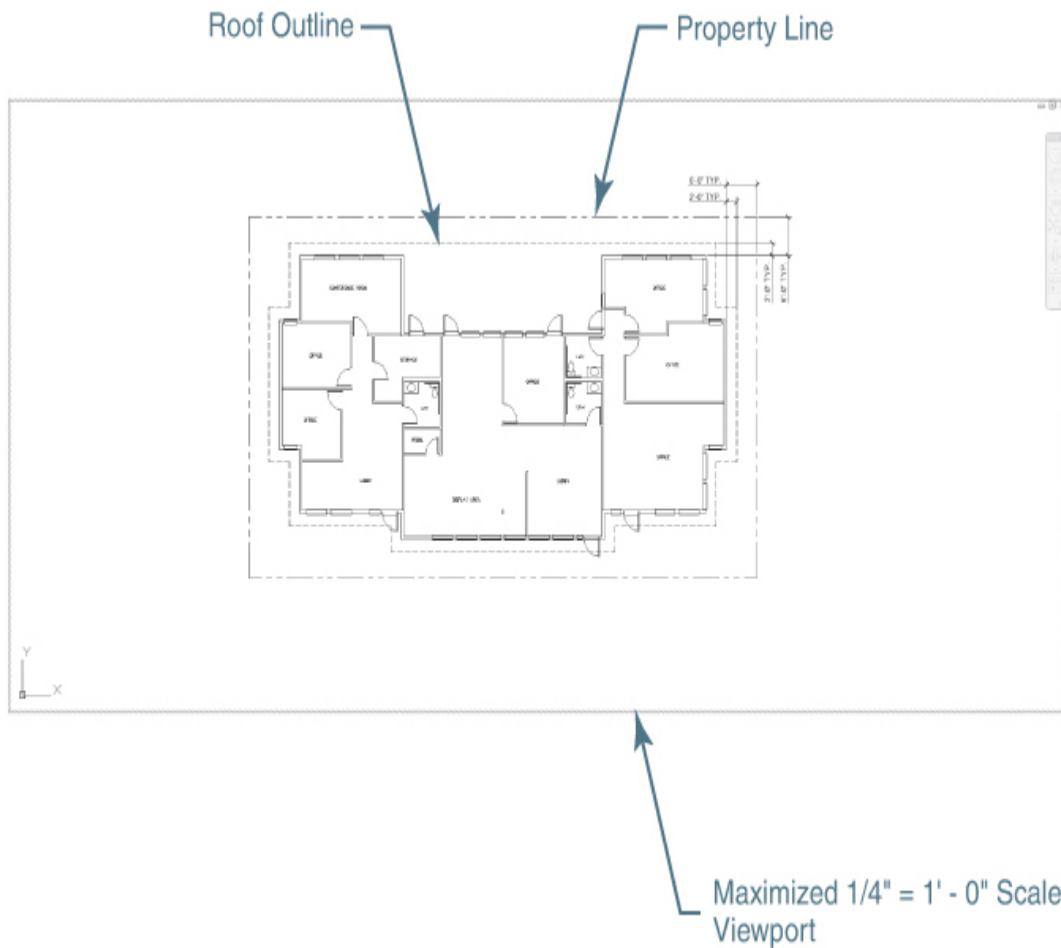

Figure 14-46
- 8** Create the roof outline as shown in Figure 14-46. **Do not** draw dimensions.
- 10** Create the property line as shown in Figure 14-46. **Do not** draw dimensions.